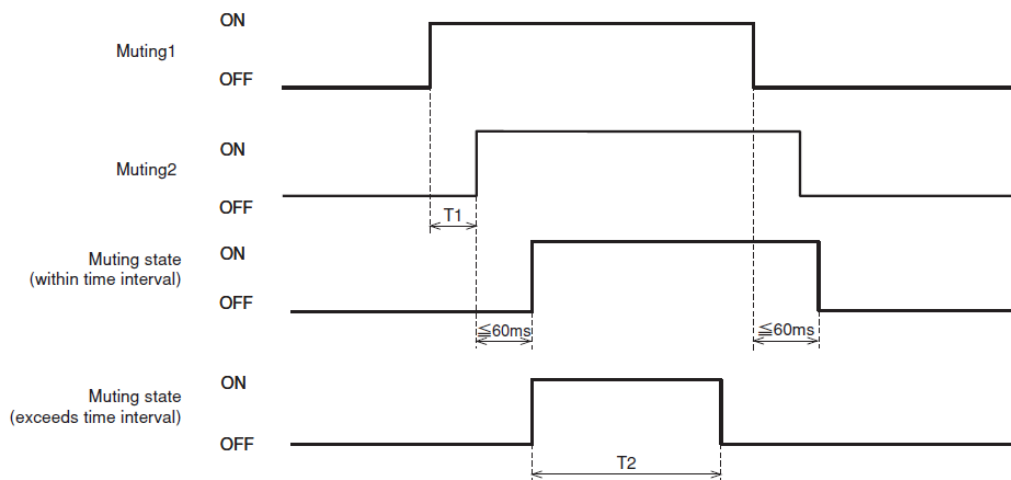

Figure 3-20 Muting sequence
- b) The two independent hard wired muting input signals are switched to ON state in the predefined sequence within the pre-set time interval. However, the switching interval between two input signals should be at least 30ms delay between the signals (Refer to figure 3-20).
- When the predefined (preset) maximum muting time T_2 exceeds (1 minute and above) (Figure 3-20).
Figure 3-20 shows the muting sequence.